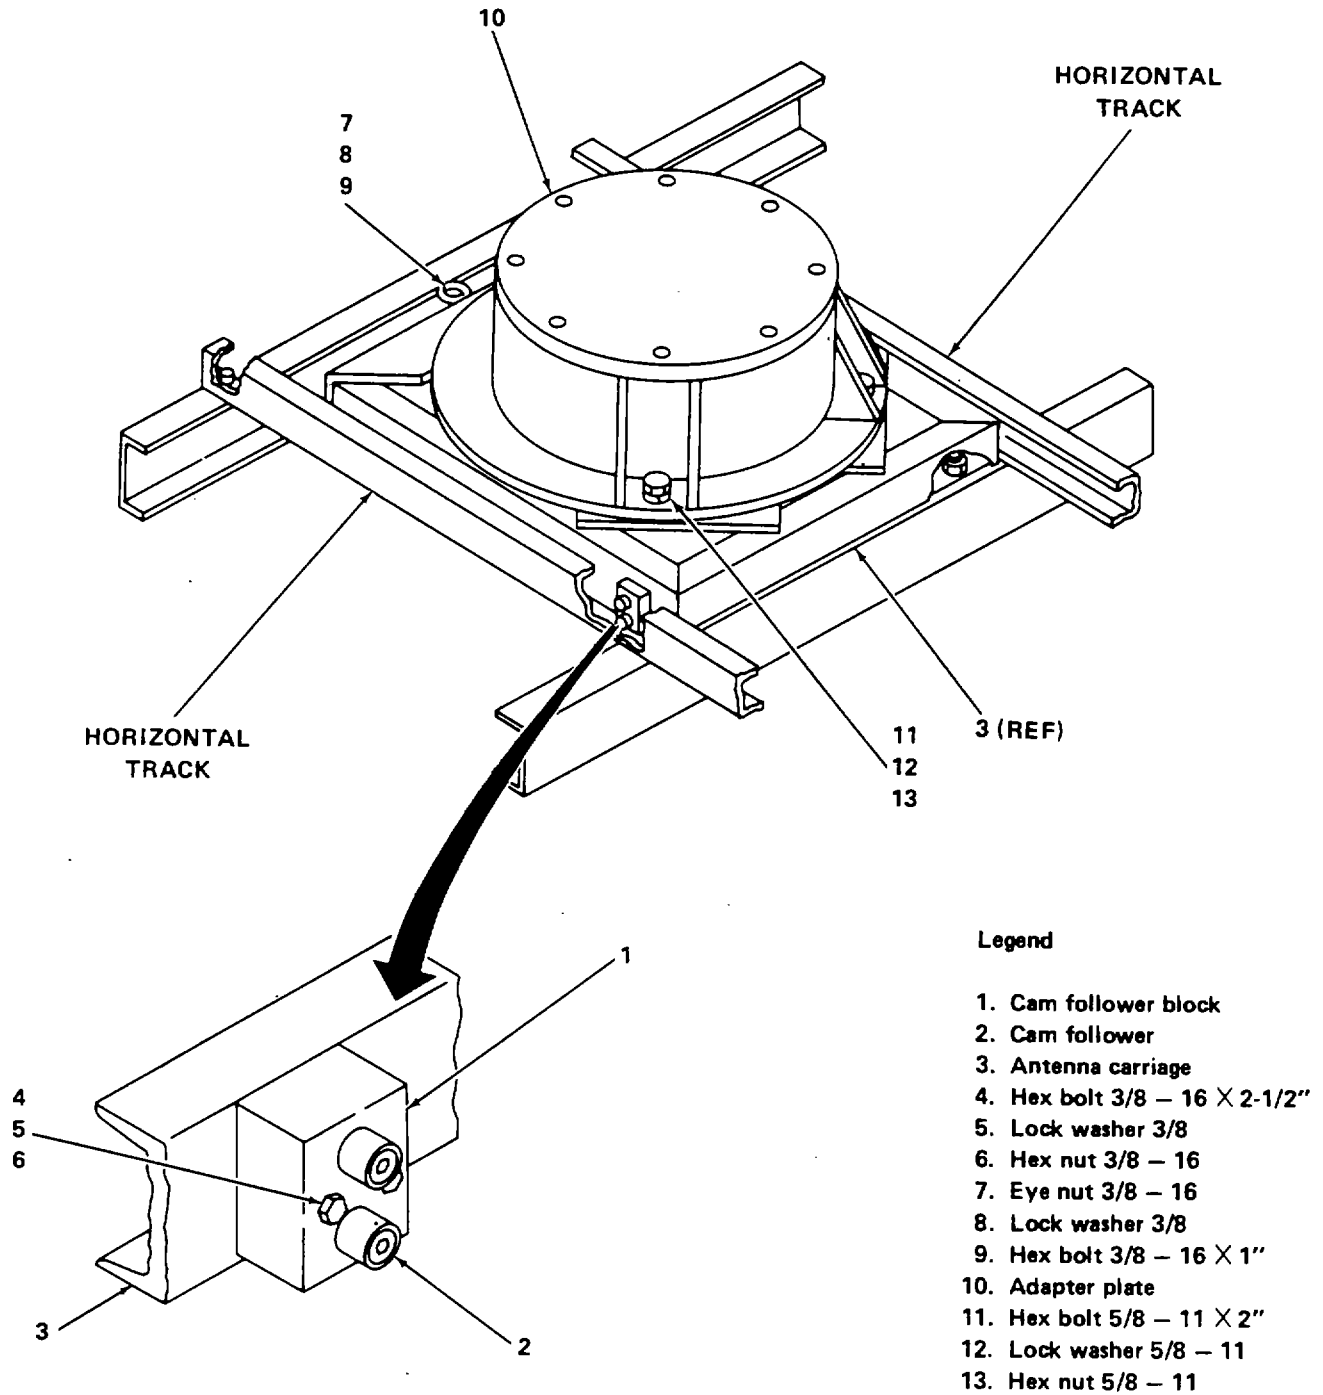
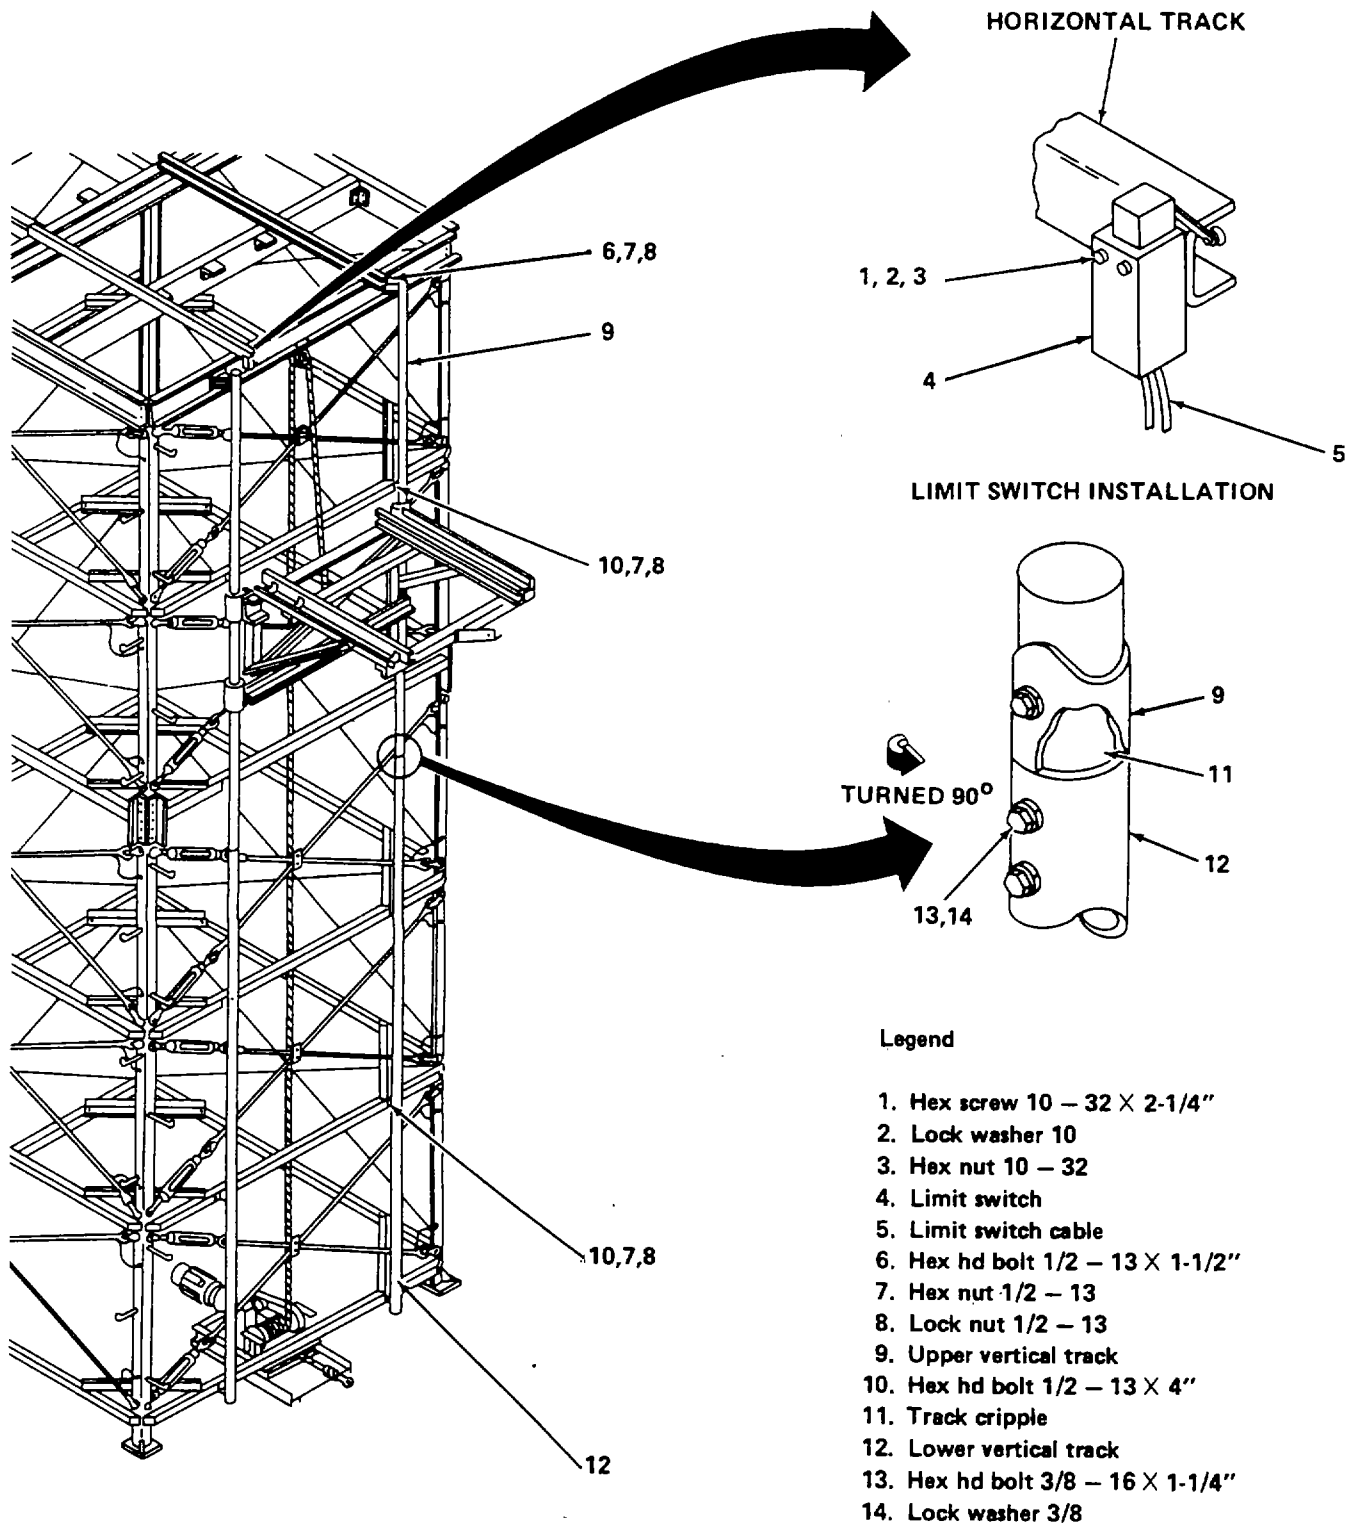
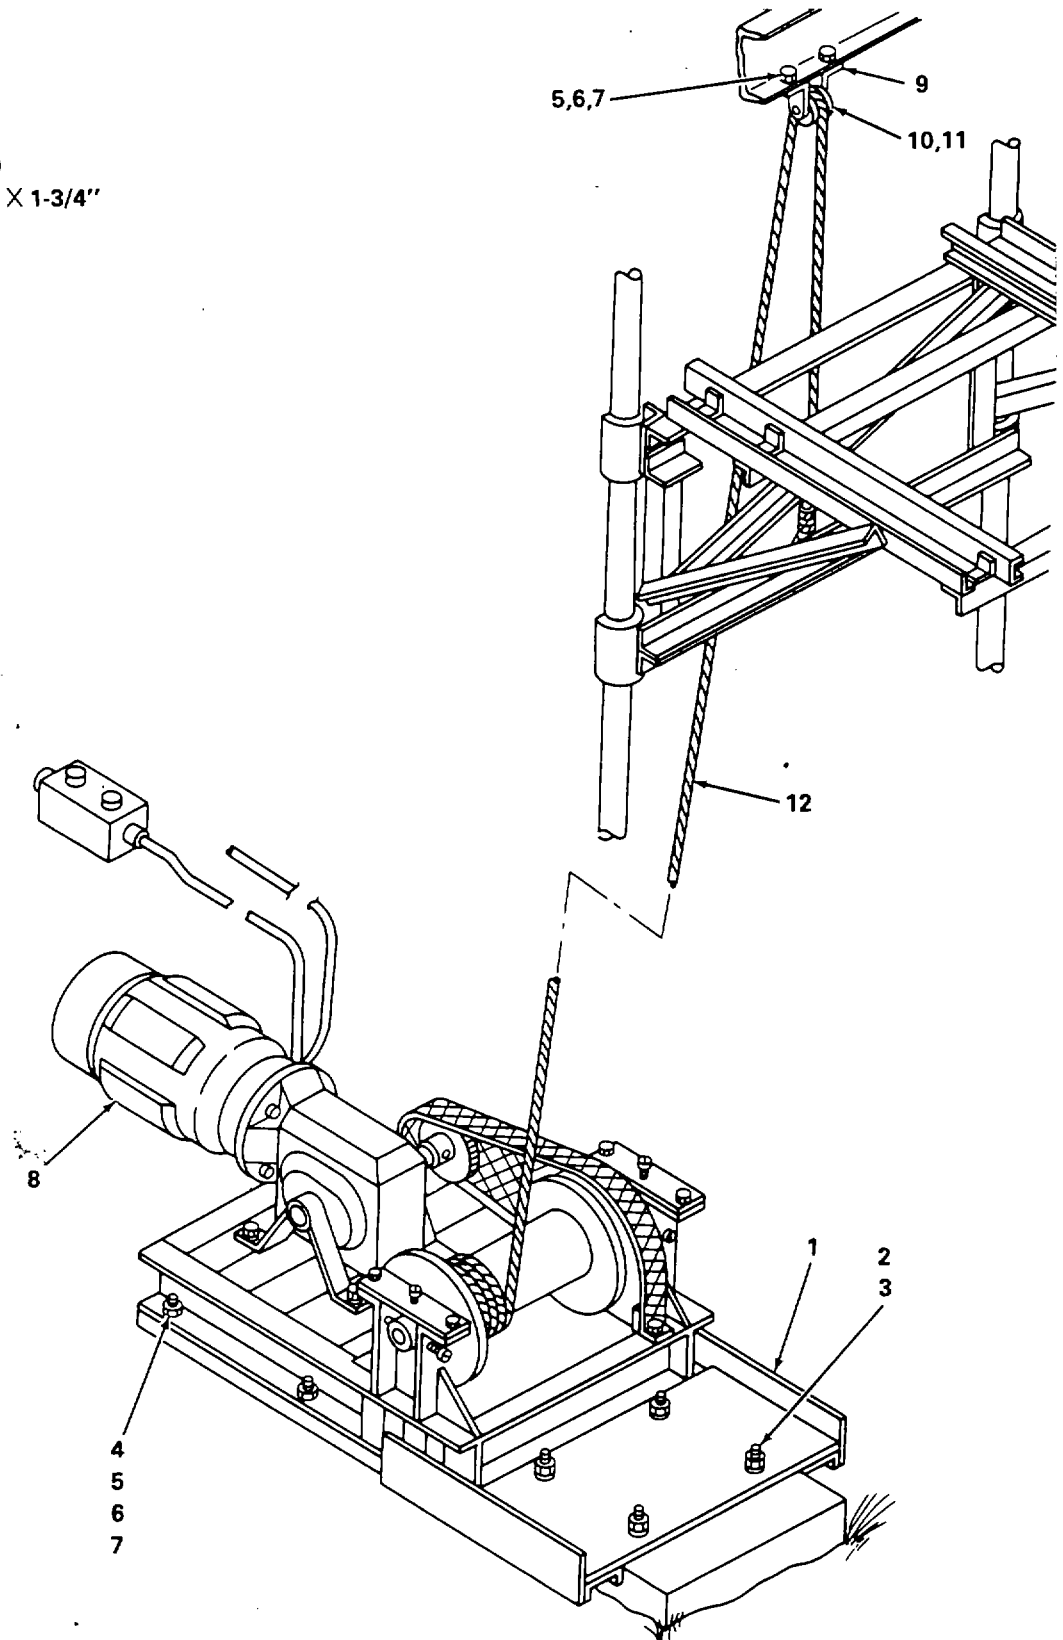

Figure 2-8. Carriage Installation
Figure 2-9. Vertical Track Installation
Figure 2-10. Hoist Installation
*f. Carriage Installation.* Refer to figure 2-8.
(1) Install four cam follower blocks (1) and eight cam followers (2) to carriage assembly (3). Secure with eight 3/8-inch bolts (4), lockwashers (5), and hex nuts (6).
(2) Install eyenut (7) to carriage assembly (3). Secure with lockwasher (8), and 3/8-inch bolt (9).
(3) Install carriage assembly (3) onto horizontal tracks.
*a. Vertical Track Installation.* Refer to figure 2-9.
(1) Raise one upper vertical track (9) into position and attach to top tower brace. Secure with four 1/2-inch bolts (6), hex nuts (7), and locknuts (8).
(2) Secure upper vertical track (1) to two uppermost horizontal braces with four 1/2-inch bolts (6), hex nuts (7), and locknuts (8).
(3) Install remaining upper vertical track in same manner as described in steps (1) and (2).
(4) Insert one track cripple (11) into top end of each lower vertical track (12). Secure cripple to lower vertical tracks with four 3/8-inch bolts (13) and lockwashers (14).
(5) Hoist lower vertical tracks (12), one at a time. Insert cripples into upper vertical tracks (9). Secure lower vertical tracks to three lower horizontal braces with 1/2-inch bolts (10), hex nuts (7), and locknuts (8).
(6) Secure track cripples to upper vertical tracks with one 3/8-inch bolt (13) and lockwasher (14) for each cripple.
(7) Install limit switch (4) and limit switch cable (5) to horizontal track. Secure with two screws (1), lockwashers (2), and hex nuts (3).
*b. Electric Hoist Installation.* Refer to figure 2-10.
(1) Place hoist mount (1) onto four anchor bolts in hoist pier. Secure with four hex nuts (2) and locknuts (3).
(2) Install hoist (8) to hoist mount (1). Secure with four 5/8-inch bolts (4), bevel washers (5), hex nuts (6), and locknuts (7).